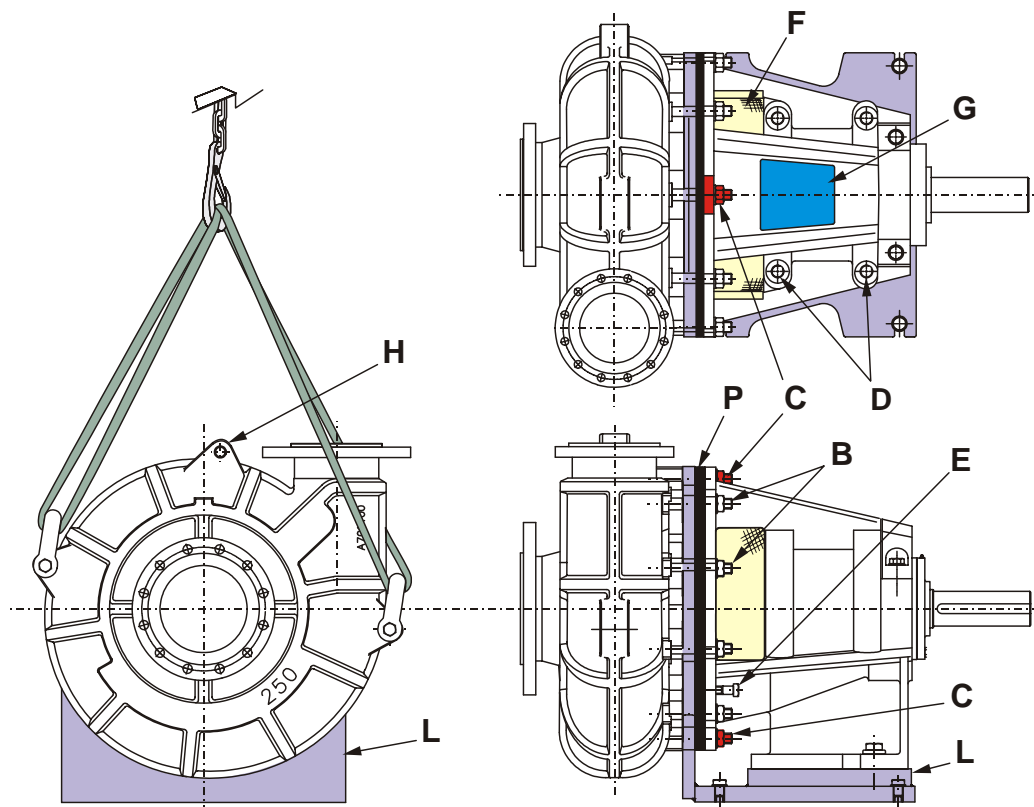

Figure 9.5.2-1 Bareshaft pump (typical)
The base (L) supports the case, the bearing and the rotating assemblies. See Figure 9.5.2-1. Bosses (D) cast in the frame are used to mount the drive motor overhead, if required.